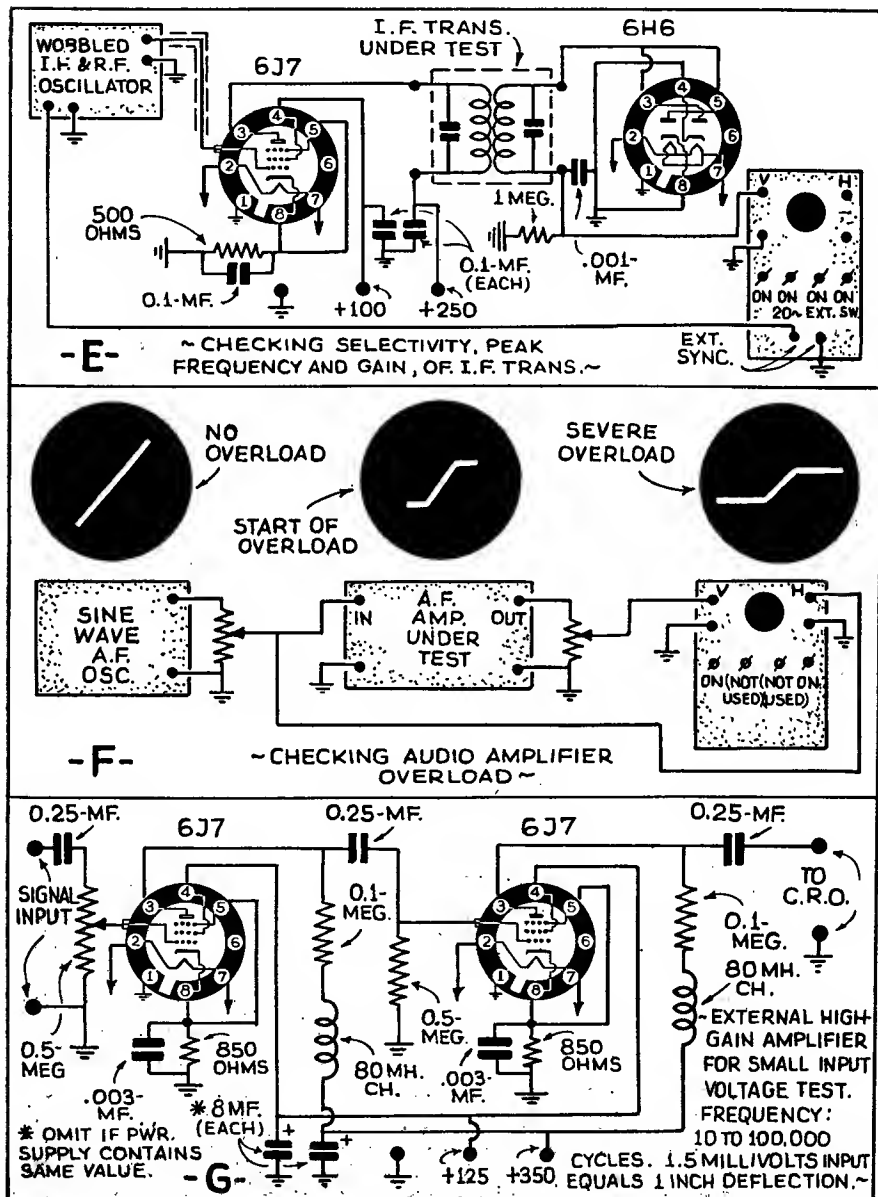

Fig. 63 E-F-G
*Phase distortion* in audio amplifiers need not concern Service Men as a problem. A definition, however, might be of interest. When the phase relation existing *between* various frequencies, at the input, changes for any reason by the time the frequencies reach the output, a change in the original wave-form will result. The ordinary tone control, as an example, is a producer of phase distortion when it mutes the high notes. A test for phase distortion requires an A. F. oscillator which contains in its output harmonics sufficiently strong to appear in the waveform. See Fig. 63. This complex signal fed to the amplifier should be viewed on the Oscilloscope at both the input and the output. Any change in the wave-form will show that there is phase distortion in some degree. Both frequency and amplitude distortions must be at a minimum, or else they may be causing changes in wave-form at the same time.